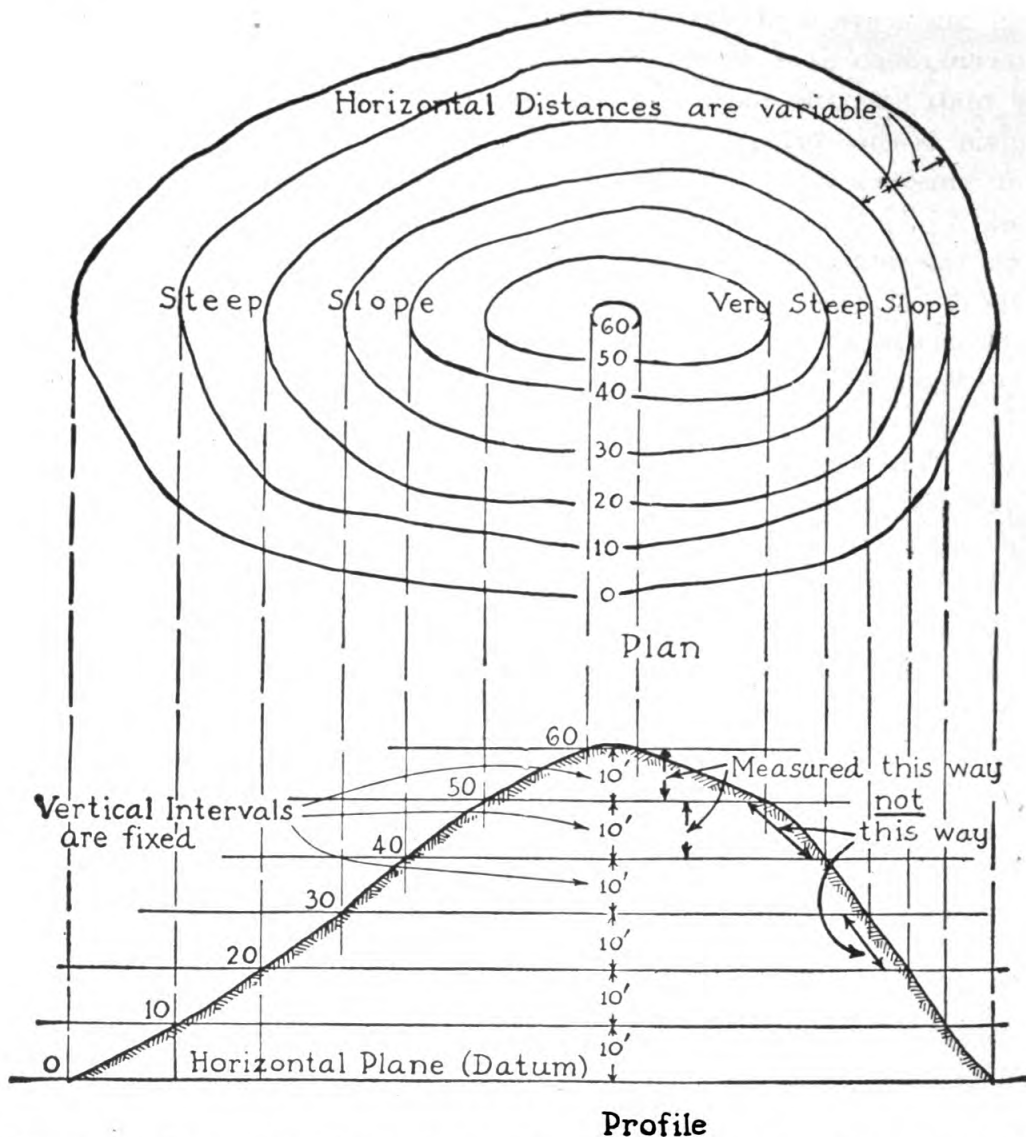

FIGURE 239.—Plan and profile of a hill. (The contours are the lines that would be left on the ground by successive horizontal slices, 10 feet thick.)
Q. Give a simple method of making a profile. **A.** To make a profile of the hill shown in figure 239, along the line of the words "Steep slope, Very steep slope"; draw a number of parallel lines at uniform intervals, as in the lower figure, numbering them at 10-foot intervals from 0 to 60 feet (the limiting elevations of the hill). Mark each point where a contour cuts the line "Steep slope," and project these points vertically down to the correspondingly numbered lines. Join the points thus found by a line. It will be the contour of the hill on the line "Steep slope."